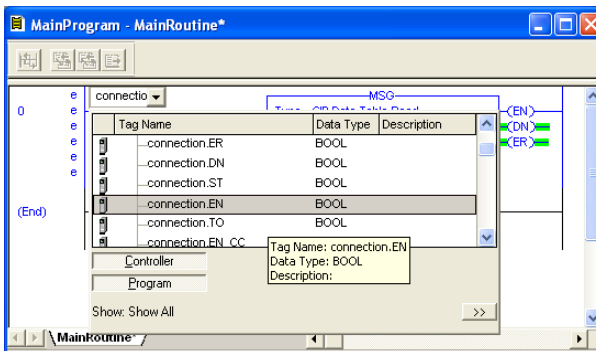

Figure 102: Configure XIO Element
- a) Double-click on the XIO element located to the left of the MSG block. In the drop-down box, double-click on the “connection.EN” field. Refer to Figure 102. This configuration causes the MSG instruction to automatically retrigger itself when it completes. While this is acceptable for the purposes of this example, it can produce high network utilization. In actual practice, it may be desirable to incorporate additional logic elements to allow triggering the MSG instruction at a specific rate or under specific conditions.